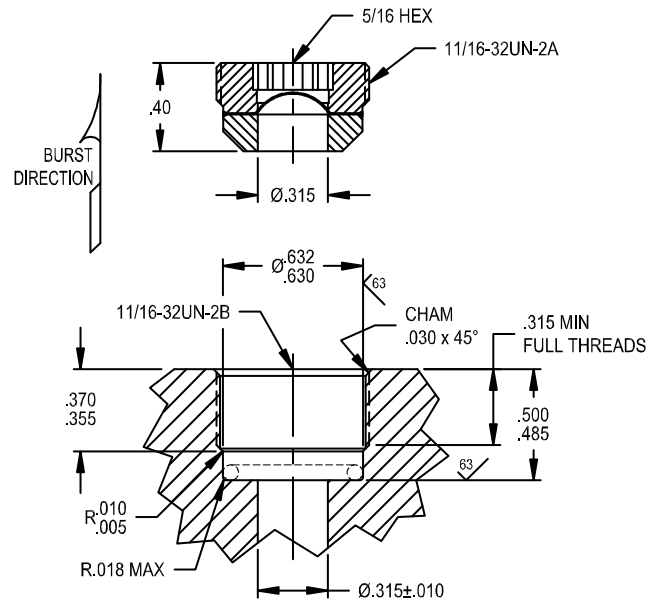

FIGURE 1:
- Reference Figure 1 for the 8mm PAD and port dimensions and o-ring location.